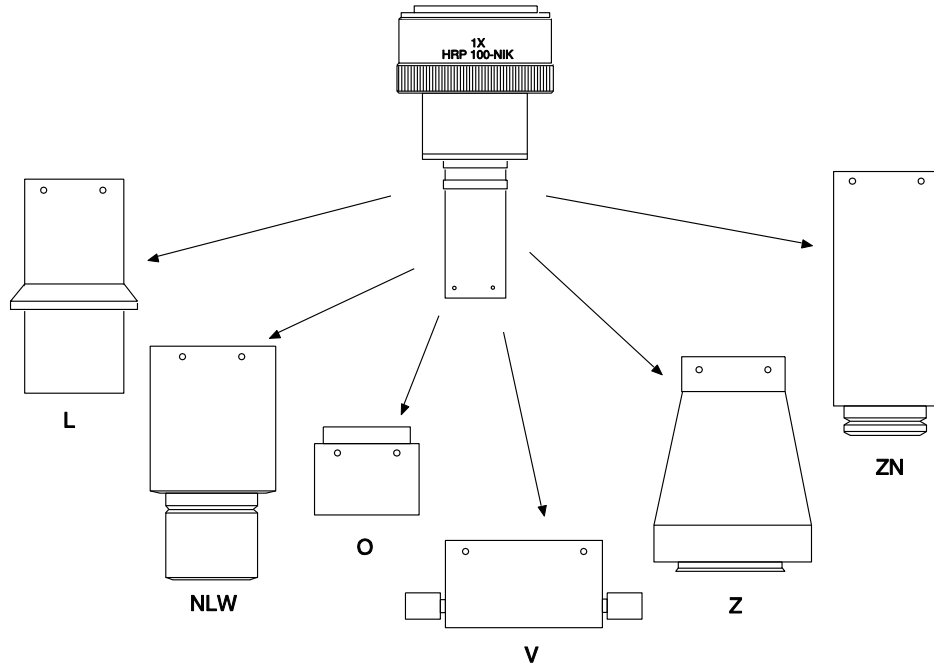

Figure 20. Diagnostic Instruments Bottom Clamps for Different Microscopes
- **A Microscope-specific Diagnostic Instruments Bottom Clamp.** Table 3 shows which bottom clamps are routinely used with each of the microscope types. They are illustrated in Figure 20. If you feel that you have received the wrong type of clamp, or if you need a clamp for a microscope other than those listed, please contact the factory.